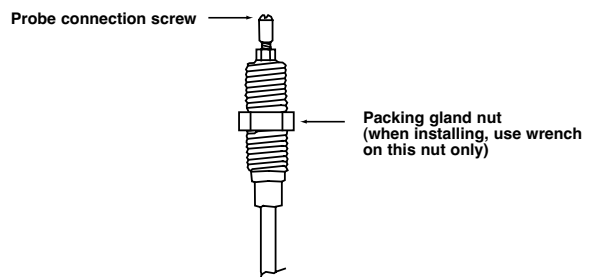

Figure 3 –
2. Tighten securely, being certain that the wrench is applied **ONLY** to the packing gland nut. See **Figure 3**.
3. Screw the transmitter/probe housing onto the probe. See **Figure 3**. Do not pinch or cut the packing gland.